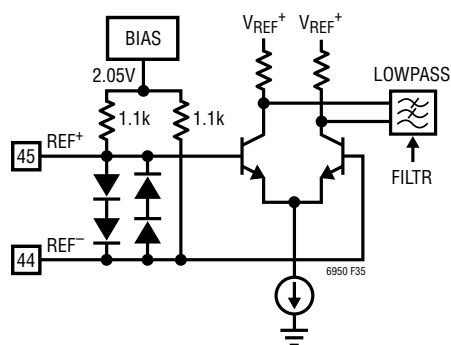

Figure 35. Simplified Reference Input Schematic
The LTC6950's reference input buffer provides a flexible interface to either differential or single-ended frequency sources. The frequency range for the reference input is from 2MHz to 250MHz. The reference input signal swing must be less than 1.5V_{P-P} to avoid turning on the input buffer's protection diodes (see Figure 35). If the input signal is too large, it should be attenuated. Any reference signal source may also be directly coupled (DC), as long as its common mode voltage is approximately the self-bias voltage of the input buffer (see Figure 35). If the common mode voltage is too high or low, the signal must be level shifted or AC-coupled.